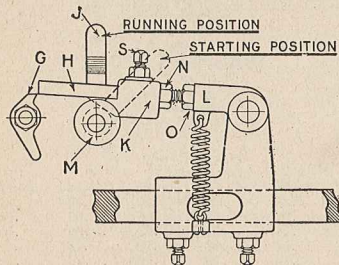
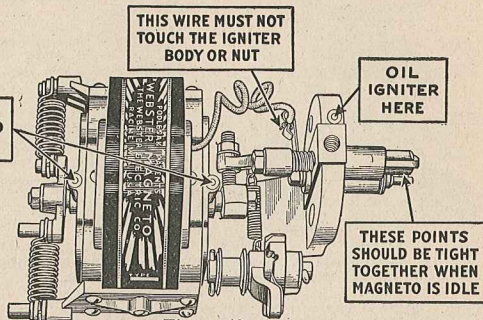

Figure 17.
Figure 18.
To see if it is furnishing a spark, remove the magneto and the igniter by taking off the two nuts that hold the igniter to the cylinder. See if the igniter points are together. If not, loosen the locknut "P" (Figure 17) and turn the adjusting screw "E" until they do come together. Then trip the magneto with the tripping lever the same as when you start the engine, and see if the spark occurs at the igniter points.
nearest the cylinder head is in the hole in the bottom of the cam rod. Then adjust the length of push rod "H" (Figure 17) until the end of the rod touches the push finger "G" and tighten locknut "O."
**Sixth.** Be sure the magneto wire is fastened to the terminal (Figure 18). Turn the flywheels to the right to see if the magneto trips off when the word **Spark** on the flywheel is opposite the top of the cam rod (Figure 20). If not, adjust the wedge "K" (Figure 17) carefully until it does. To make engine fire earlier, move wedge "K" toward magneto. To fire later, move wedge "K" away from magneto.
**Third.** Place the tripping lever on the magneto and cock the springs. Be sure the timing lever "J" (Figure 17) is in the running position.